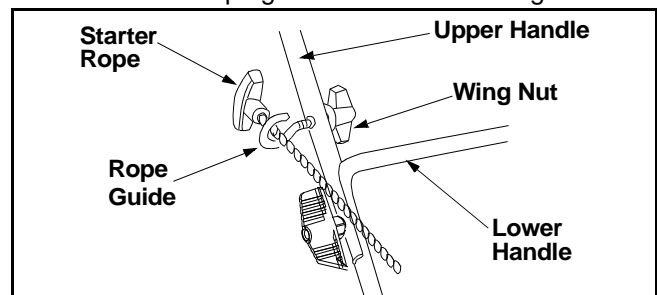

Figure 4
- Move rope guide to the first hole above the lower handle on right side. The wing nut loosens and secures the rope guide to handle. See Figure 4.